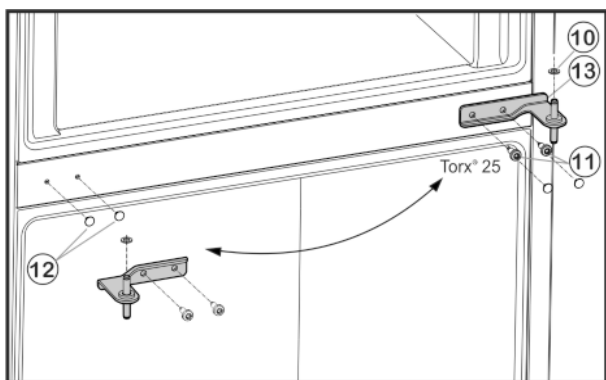

Fig. 5
- ▶ Unscrew the fastening screws Fig. 5 (11) (2 x Torx® 25) and pull the centre bearing block out of the lower door.
- ▶ Remove plastic washer Fig. 5 (10).
- ▶ Carefully pull off the covers Fig. 5 (12) and fit to the opposite side.
- ▶ Insert the centre bearing block Fig. 5 (13) turned through 180° into the lower door and fasten firmly (**with 4 Nm**) to the new hinge side with the fastening screws (2 x Torx® 25).
- ▶ Refit plastic washer Fig. 5 (10).